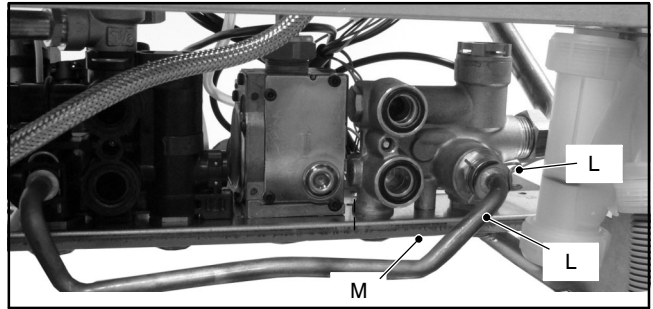

Fig. 8.6 Rear view of the boiler
- 8 Remove the fork *K* and move away the pipe *L* (Fig. 8.6).